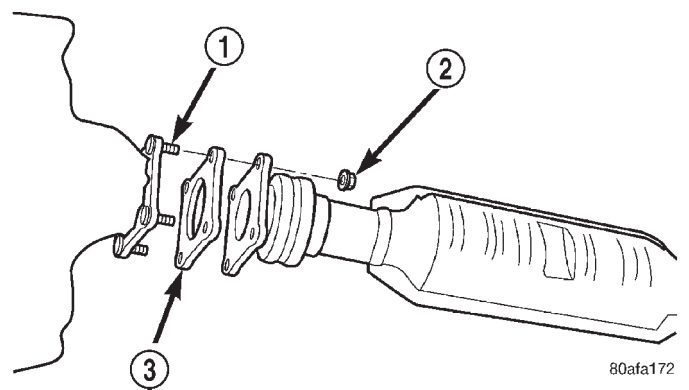
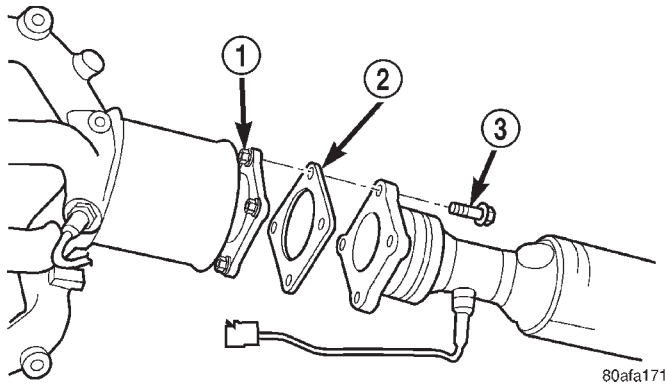

Fig. 11 Catalytic Converter to Exhaust Manifold Connection—Federal & LEV
Fig. 12 Catalytic Converter to Exhaust Manifold Connection—ULEV
- (4) Remove catalytic converter to exhaust manifold attaching fasteners and remove converter from vehicle (Fig. 11) or (Fig. 12).
- (5) Remove and discard flange gasket.
(2) Install exhaust manifold support bracket (Federal and LEV only). Tighten M10 bolt to 54 N·m (40 ft. lbs.), M12 bolt to 95 N·m (70 ft. lbs.), and nut to 28 N·m (250 in. lbs.).
(3) Install bolt attaching manifold support bracket to the heat shield (Federal and LEV only). Tighten bolt to 28 N·m (250 in. lbs.).
(4) Assemble muffler and exhaust pipe to catalytic converter. Install muffler and pipe support isolators to the underbody.
(5) Tighten the catalytic converter to exhaust manifold fasteners to 28 N·m (250 in. lbs.) (Fig. 11) or (Fig. 12).
(6) Working from the front of the system—align each component to maintain position and proper clearance with under body components. Tighten all slip joint band clamps to 47 N·m (35 ft. lbs.).